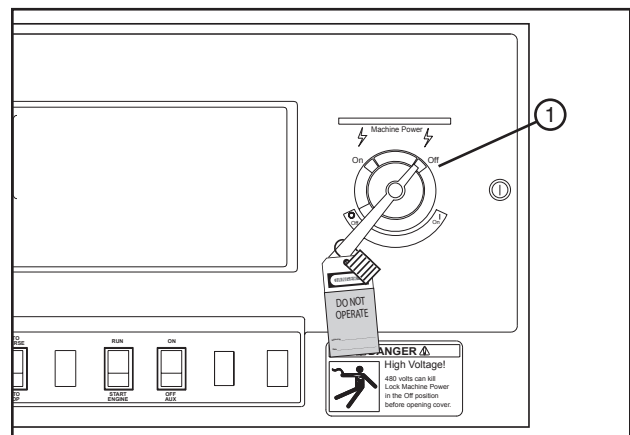

Figure 43-3 1. Main Power Disconnect
4. SHUT OFF and LOCK the control panel main power disconnect. FILL OUT the blue (OSHA safety color code) tag and attach to the disconnect after locking. See figure 43-3.